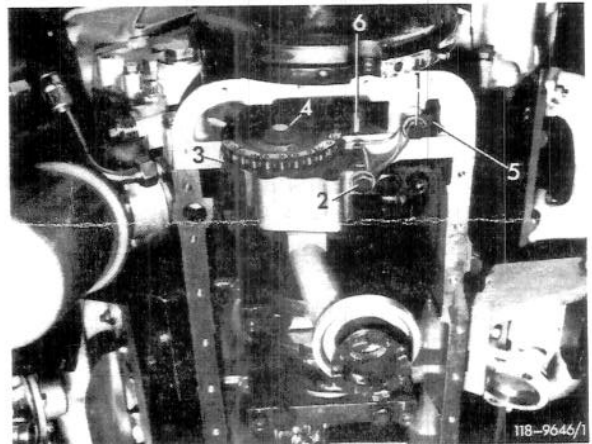

Figure 5
16. Remove oil pan (Figure 5).